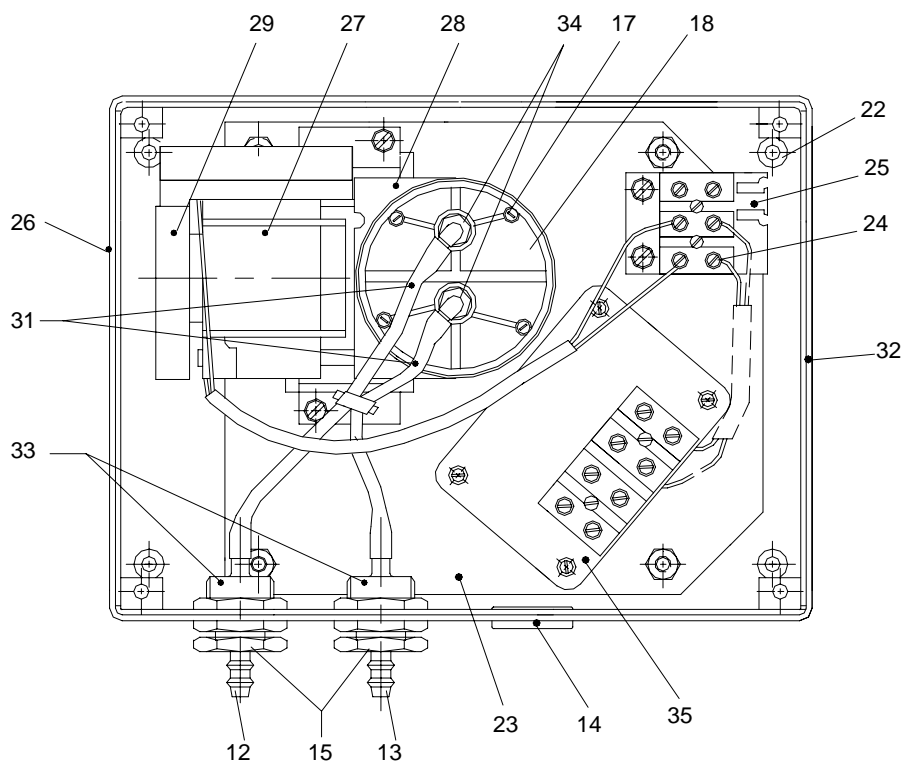

Fig. 2 Diaphragm Pump Model 3N; with cover removed
The Diaphragm Pump Model 3N is supplied as a surface-mounting instrument in a metal case (32)^{*)} protected to IP 20 (see Figs. 2 and 6) IS-2147 (DIN 40 050). Once the 4 slotted screws have been removed, the square case cover can be taken off. For wall mounting, the Diaphragm Pump Model -3N has mounting holes (22) of 4.5 mm diameter recessed into each of the 4 corners on the back of the case (see Fig.2). The ventilation holes (26) are located on the left^{**)} and right hand side of the case.
After removing the case cover, the Diaphragm Pump Model 3N is screwed to a wall, mounting plate, control panel etc. using the 4 mounting holes (22) of M4 diameter (see Figs. 2 & 6). Normally, mounting on vibration - absorbing elements is not required. The preferred connection or operating position is as follows:
The power line is introduced via Rubber Grommet (14) on the underside of the pump case (see Figs. 2&6)